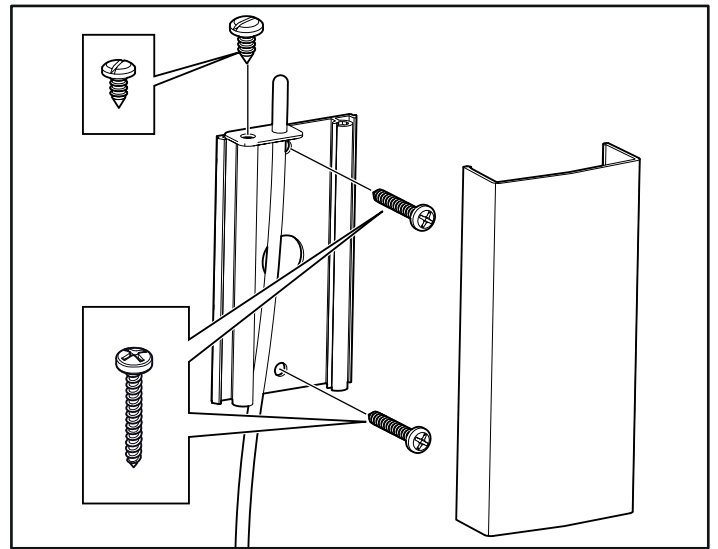
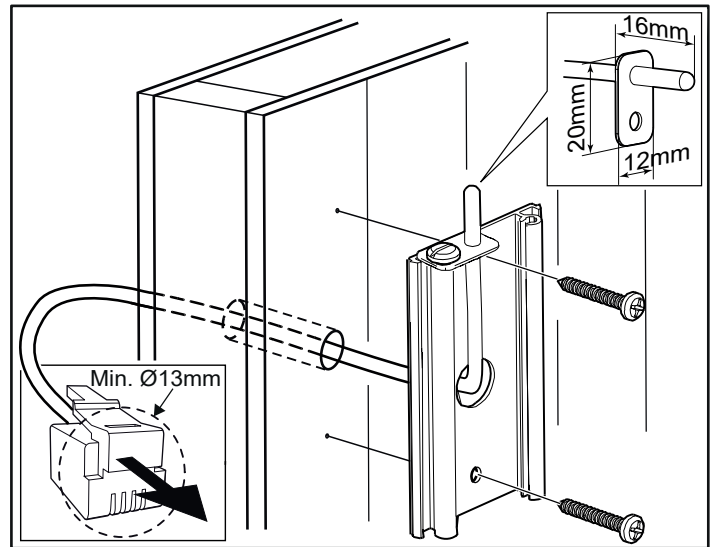

Figure 15: Installing the sensor
Figure 16: Wiring through the wall.
9. Install the sensor on the wall see Fig 15. The thermistor wire may also be passed through the wall. Seal any holes in the wall behind the sensor, see Figure 16. The thermistor wire may be extended outside the sauna using low voltage wire (2-lead).